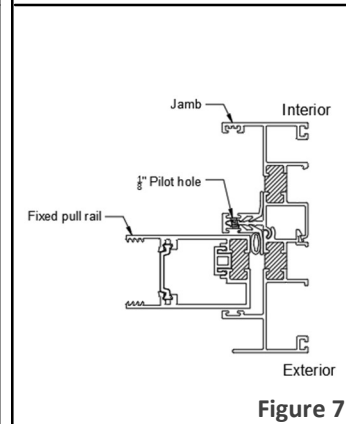

Figure 7
3.4b Drill 1/8" holes (4) through jamb center leg into fixed rail (figure 7). Note 4 holes have been factory predrilled at top and bottom at jamb center leg. Holes are roughly 1/2" from each end, 1 1/4" centre to centre distance, 3/16 diameter holes.